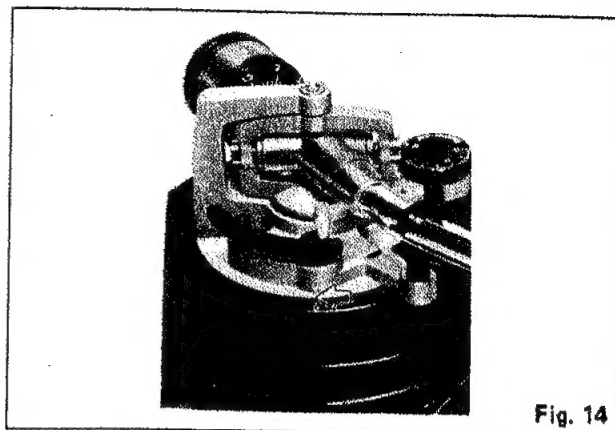

Fig. 14
5. Rotate the control ring and make sure that the arm base shifts within the range of 0~6mm. (See Figs. 14 and 15) If it does not shift within the specified range, the arm base position is deflected. In that case, disassemble the parts and check as specified in step 3.